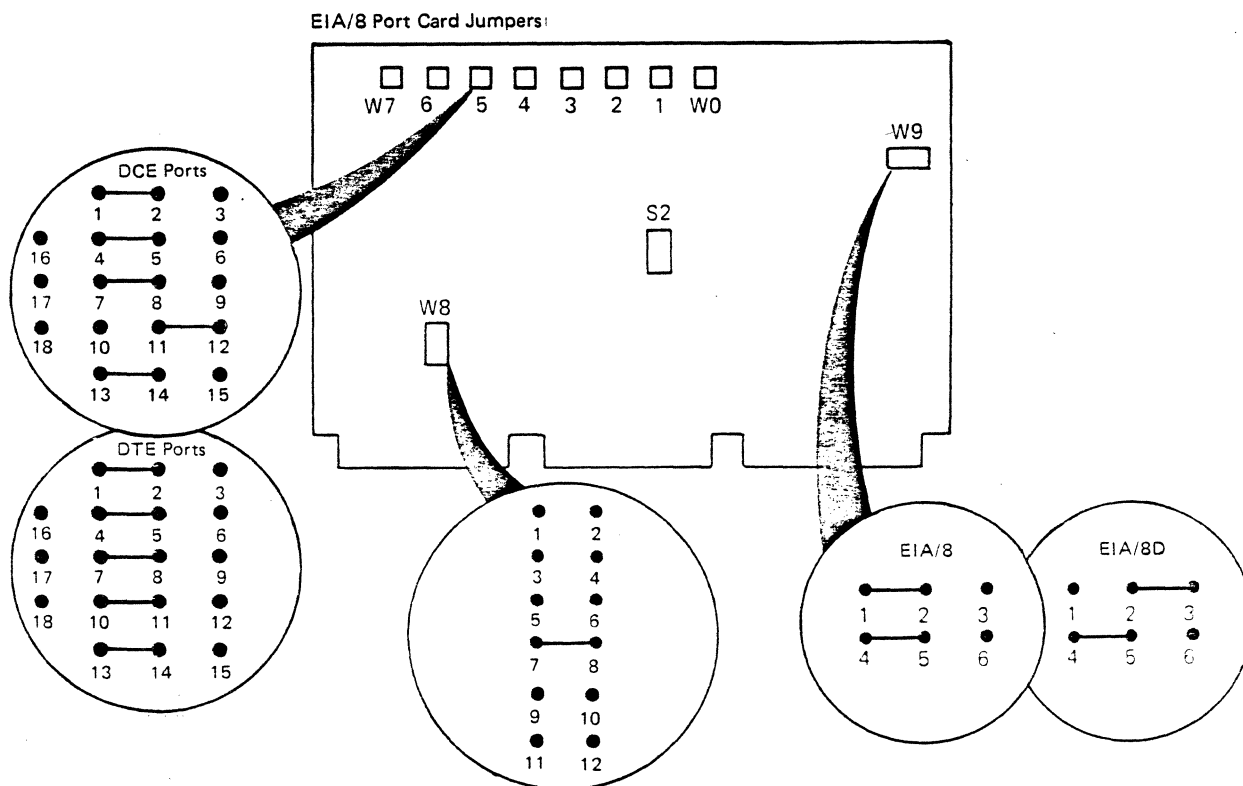

Figure 9-1. EIA/8 Port Card Default Jumping Shown
The EIA/8 port card features jumpering options. Figure 9-1 details the relationship between the jumper area and the port it controls, and illustrates the jumper area locations.
2. Refer to jumper area W8 (Figures 9-1 and 9-2).
2. Jumper areas W0 through W7 are factory-jumpered as shown in Figure 9-1.
Jumper area locations and the port controlled by the jumper area are detailed in Figures 9-1 and 9-2.